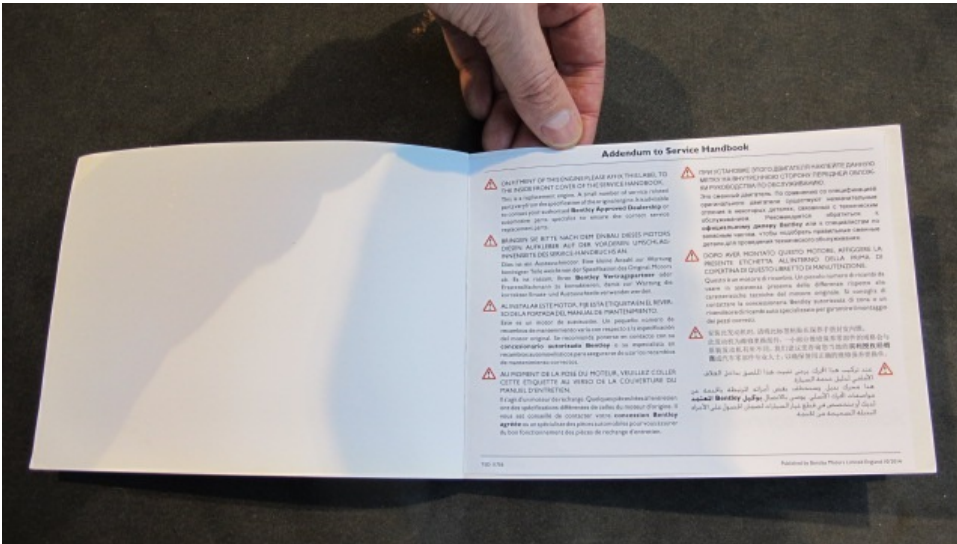

Figure 3
- Check the service handbook for the Service Handbook Addendum (Figure 3) the Addendum is supplied with the engine at time of manufacture or was supplied as part of a separate service campaign